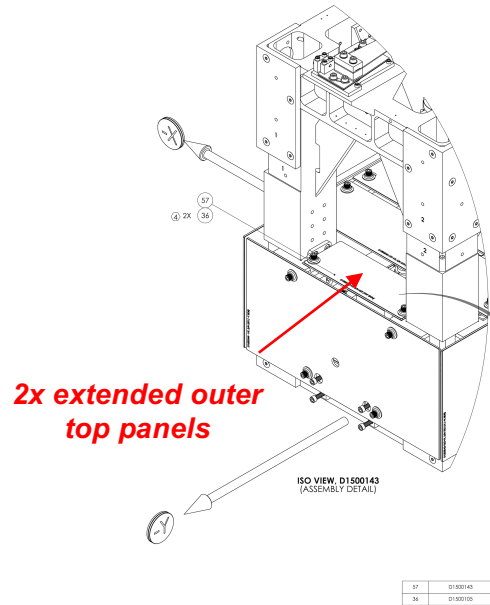

Figure 4: Extended top glass panels (D0900295 Sheet 17)
- Remove two extended top panels (D1500143) to allow us to remove the top EQ stops (D1201475 x 2, See D1201441) (Figure 4).